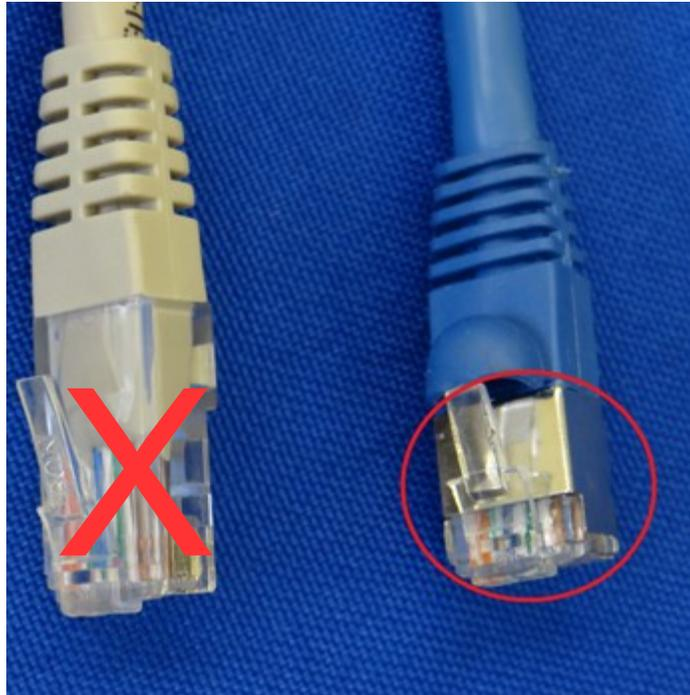

Figure 2.3.9
1. Connect a shielded Ethernet cable from your MPU11 device to the PC. A shielded Ethernet cable will have a metal clip around the RJ-45 connector it as shown by the blue cable in Figure 2.3.9 Centroid recommends using snagless patch cables from StarTech. **StarTech ID# S45PATCH25BL**. This information is outlined in Technical Bulletin #251, the latest version can be found [here](http://www.centroidcnc.com/usersupport/support_files/tbs/tb251.pdf). (http://www.centroidcnc.com/usersupport/support_files/tbs/tb251.pdf)